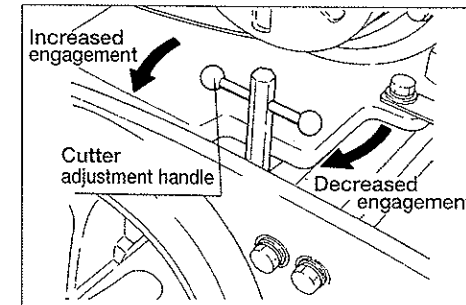

Fig. 20B
- ① Turning the adjustment handle in Fig. 20B to the right causes the degree of engagement to decrease, while turning to the left causes it to increase.
- ② Adjust so that both the left and right sides make slight contact and that newspaper is cut easily.